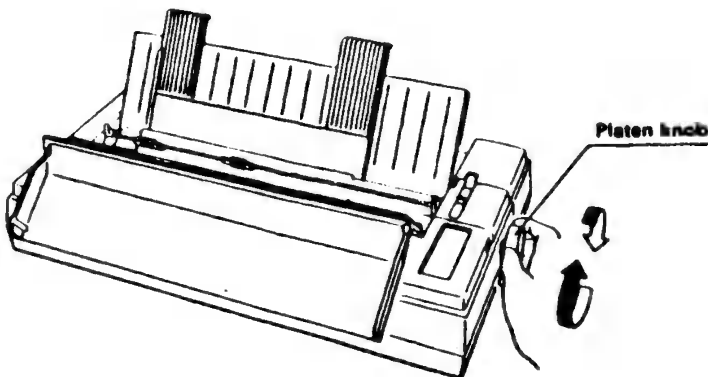

Figure 2-13 Loading the Paper
6. Manually turn the Platen Knob in the direction shown by the arrow in Figure 2-13, until the paper is held between the platen and the bail rollers.